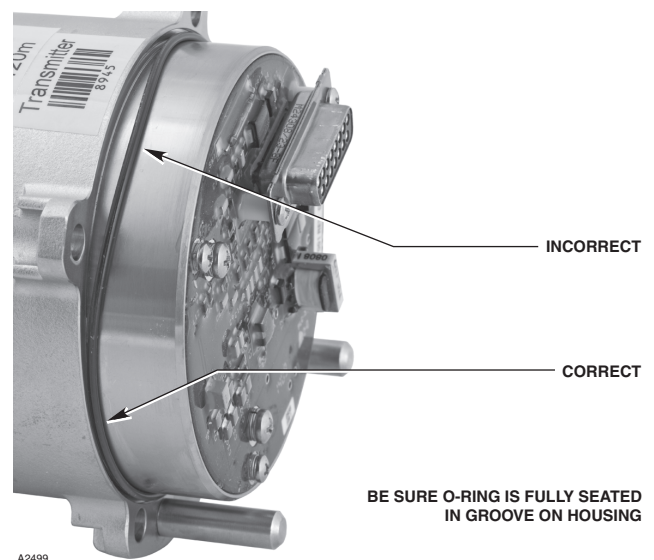

Figure 22—O-Ring on HC600 Module
4. Ensure that the o-ring on the replacement module is present, undamaged, and correctly seated in the groove on the housing. See Figure 22. This o-ring is required to maintain the watertight integrity of the HC600 housing.